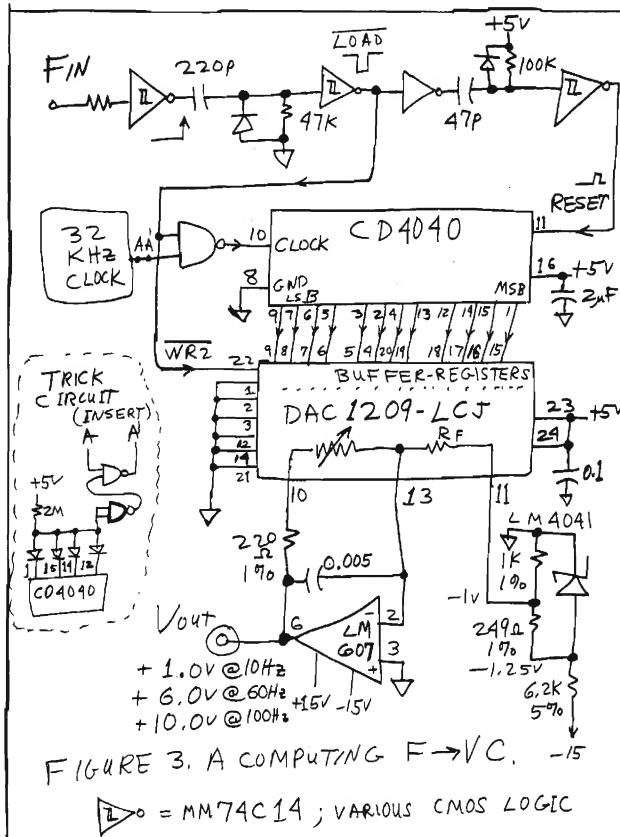

FIGURE 3. A COMPUTING F \rightarrow V/C.
I built it up and it worked. This Frequency-to-Voltage converter settles in one cycle of the frequency. Besides that, it uses only a small number of parts (Fig. 3).
6. That's the function of the trick circuit shown in Figure 3—to detect when the counter is nearly full, shutting off the clock. This prevents preposterous outputs when the frequency approaches zero.